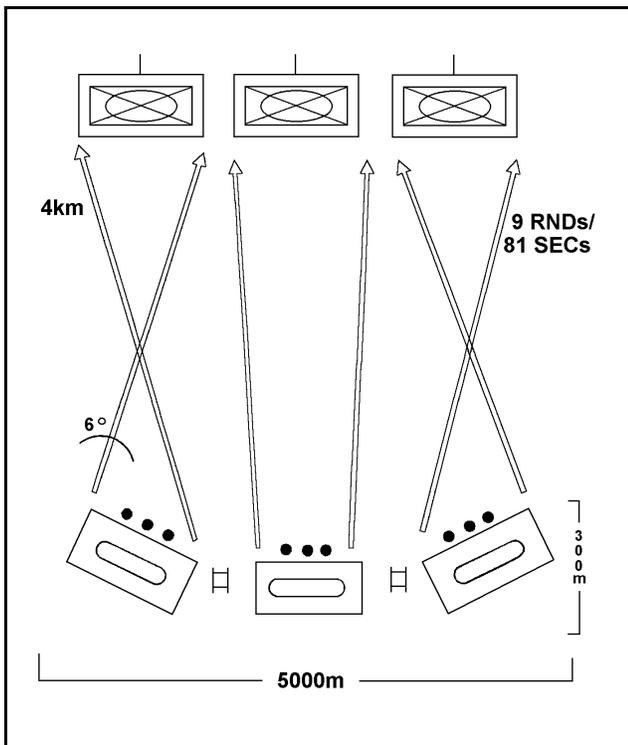

Fig. 3
• **Engaging the Advance Guard Main Body.** (See Figure 3.)